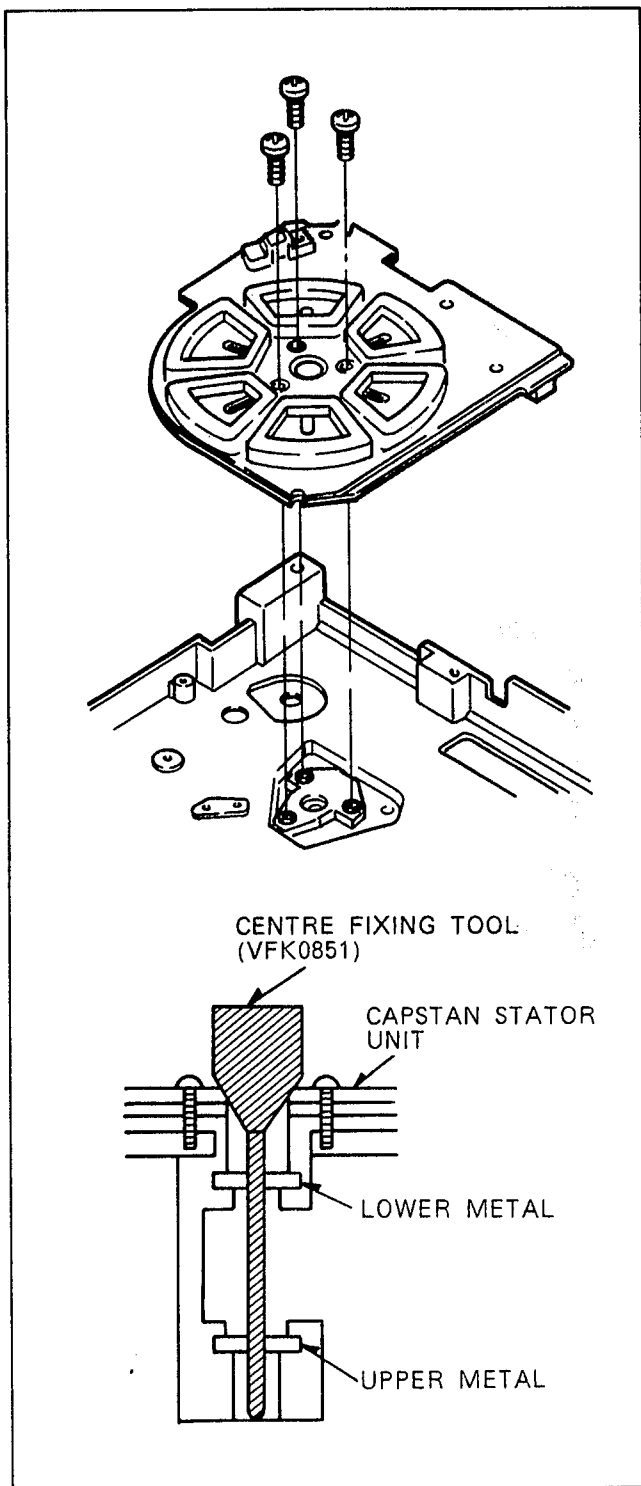

Fig. S5
- 3) Insert the CENTRE FIXING TOOL (VFK0851) as shown in Fig. S5.